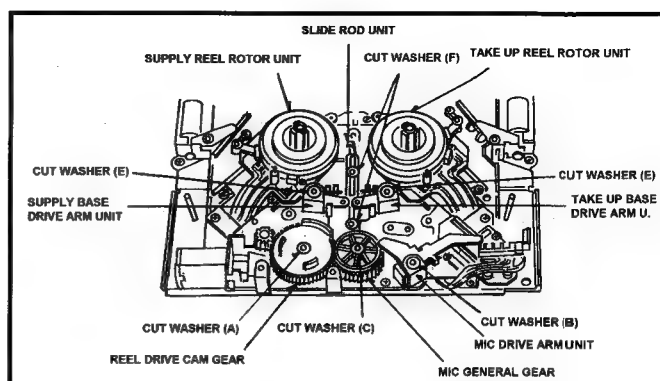

Fig.6-22-1 Removal of Slide Rod Unit
6. Install the Cut Washer (A), (B) and (C) as shown in Figure 6-22-1.